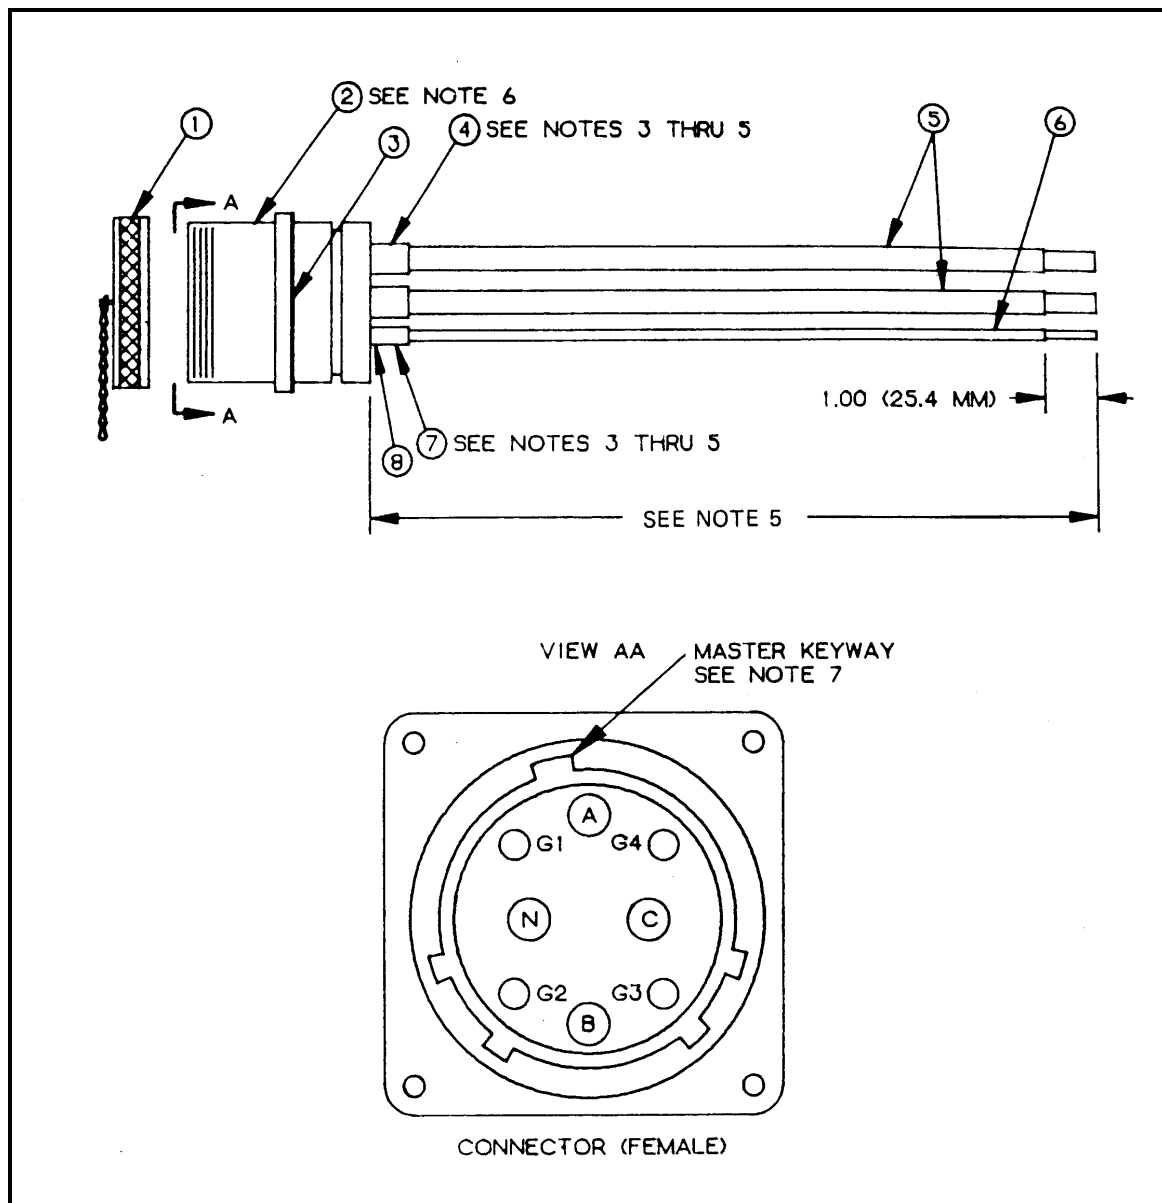

Figure F-28. M200/100, (PDISE) 100-Amp, Output Connector Assembly.
Component Legend for Figure F-28
c. Electrical connector (Figure F-28, Item 2) is furnished with the following: